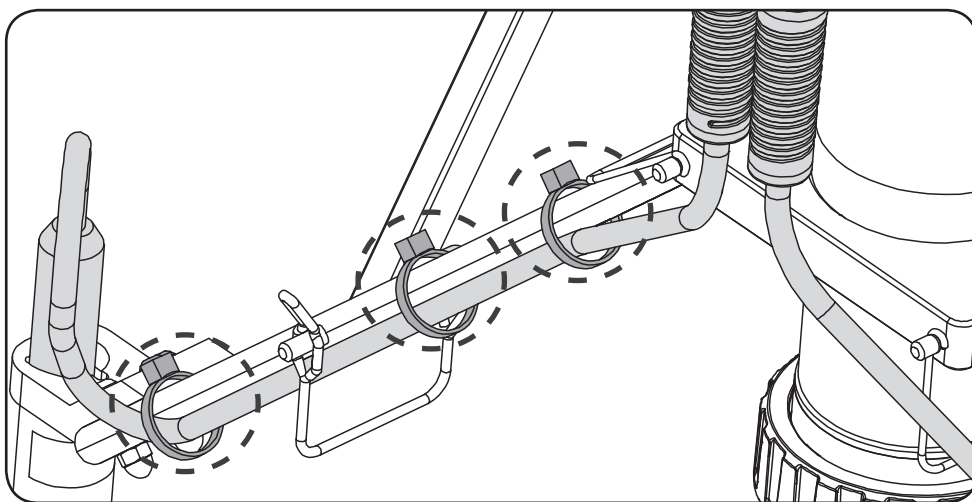

Figure 8 Fasten the sensor cables to the EXO PAR frame support arms
1. You will first need to enable the PAR(s) sensor in Kor. To do so you will need to select **File**, and then select **Settings**, and from the list of parameters select **PAR** and you will see figure 8 if done correctly. From this window you can enable either the PAR sensor or sensors by clicking the boxes shown.